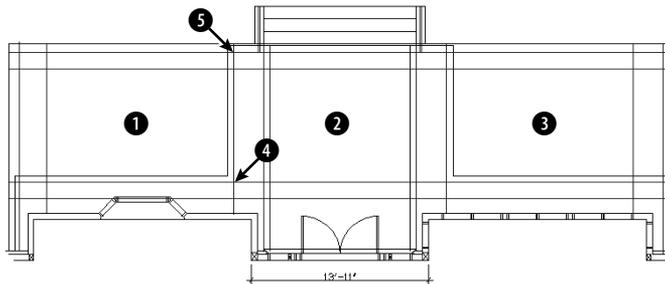
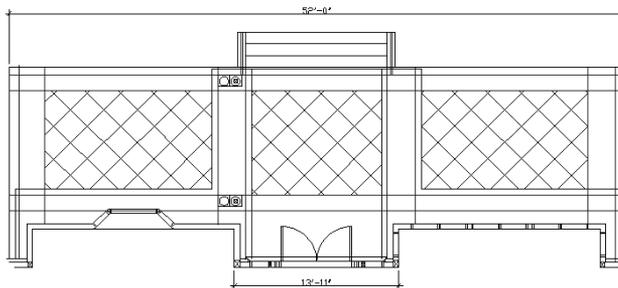

Figure 26-8: This back porch needs some columns (which are blocks), some hatching, and a dimension.
Figure 26-9: The drawing now has hatches and blocks inserted from the tool palette. It also has a new dimension.
2. Save the file as `ab26-02.dwg` in your AutoCAD Bible folder. This drawing, shown in Figure 26-8, needs some blocks (which are hatching), some hatching, and a dimension.
12. Drag the User Defined hatch icon to ❶ in Figure 26-8. Then do the same for ❷ and ❸. These areas are hatched, as shown in Figure 26-9.
15. Switch back to the 2d arch tab and click the Post icon. At the Specify insertion point: prompt, pick the intersection at ④ in Figure 26-8. Click the Post-Structural icon. At the prompt, pick the upper-right corner of the post block, as shown in Figure 26-9.
16. Click the Post icon. At the prompt, pick ⑤ in Figure 26-8. Use the same technique to place the Post-Structural icon at the upper-right corner of the post block. (The posts would then need to be spaced and mirrored to the other side of the porch, but these tasks are not necessary for this exercise.)
19. Save your drawing. It should look like Figure 26-9.